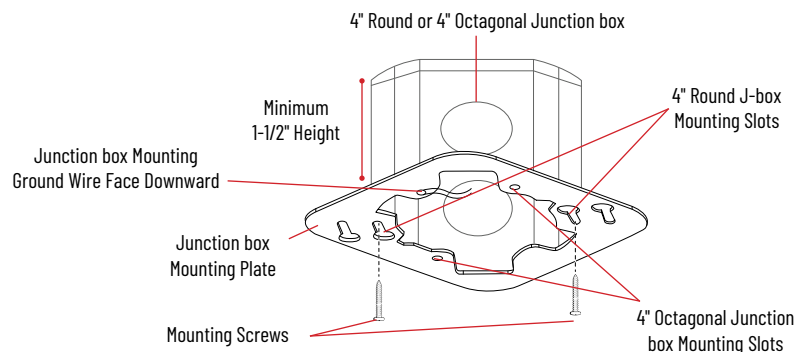

FIGURE 1
- Loosen mounting screws from 4" octagonal junction box. Fully remove mounting screws from 4" round junction box. (Figure 1)